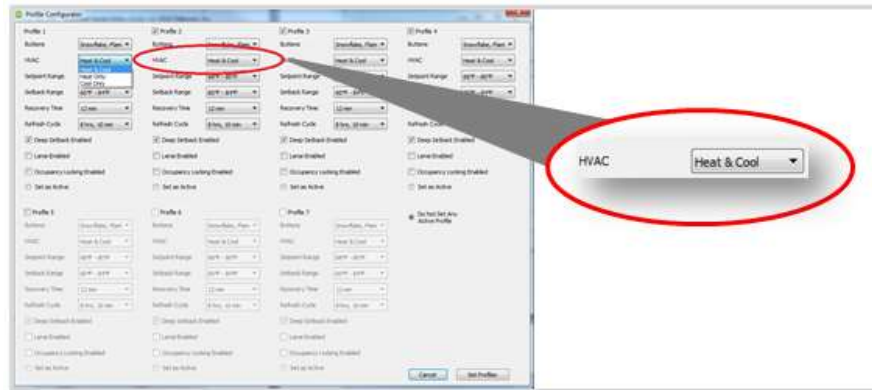

Figure 14
- Select the HVAC mode: **Heat & Cool** (typical), **Heat Only** or **Cool Only** (Figure 14).